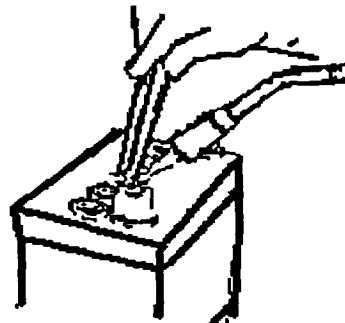

Figure 4-2
- (8) With the steel post mold securely in place, apply heat to the top of the damaged post. Use a torch that produces a narrow pencil-shaped flame in order to direct the heat to the top of the post without overheating the post mold. An overheated mold will cause the lead to become too hot and lost by running out under the base of the mold. As the lead start to melt, be careful not to jar and unseat the mold. Use a thin steel prop and manually test the top of the lead post to determine when the post is molten enough to accept new lead to be added. This will be difficult to tell with the naked eye, and the use of the prod will help to prevent overheating of the lead. When the top of the lead post is molten, hold one end of the lead stick close over the opening of the mold. Heat the end of the stick and feed the molten lead into the molten metal of the battery post. Be sure to keep both the molten lead of the post and the new molten lead fluid until the mold is filled. (See Figure 4-2).